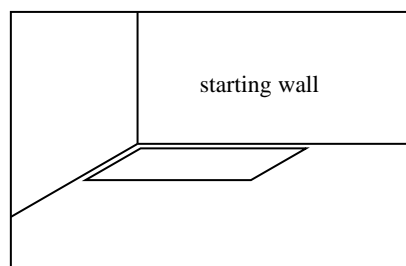

Fig.2 – Left corner of starting wall
- The planks will be installed starting in the corner of the room on the left side of the starting wall (Figure 2). The backing exposed to the pressure sensitive adhesive.